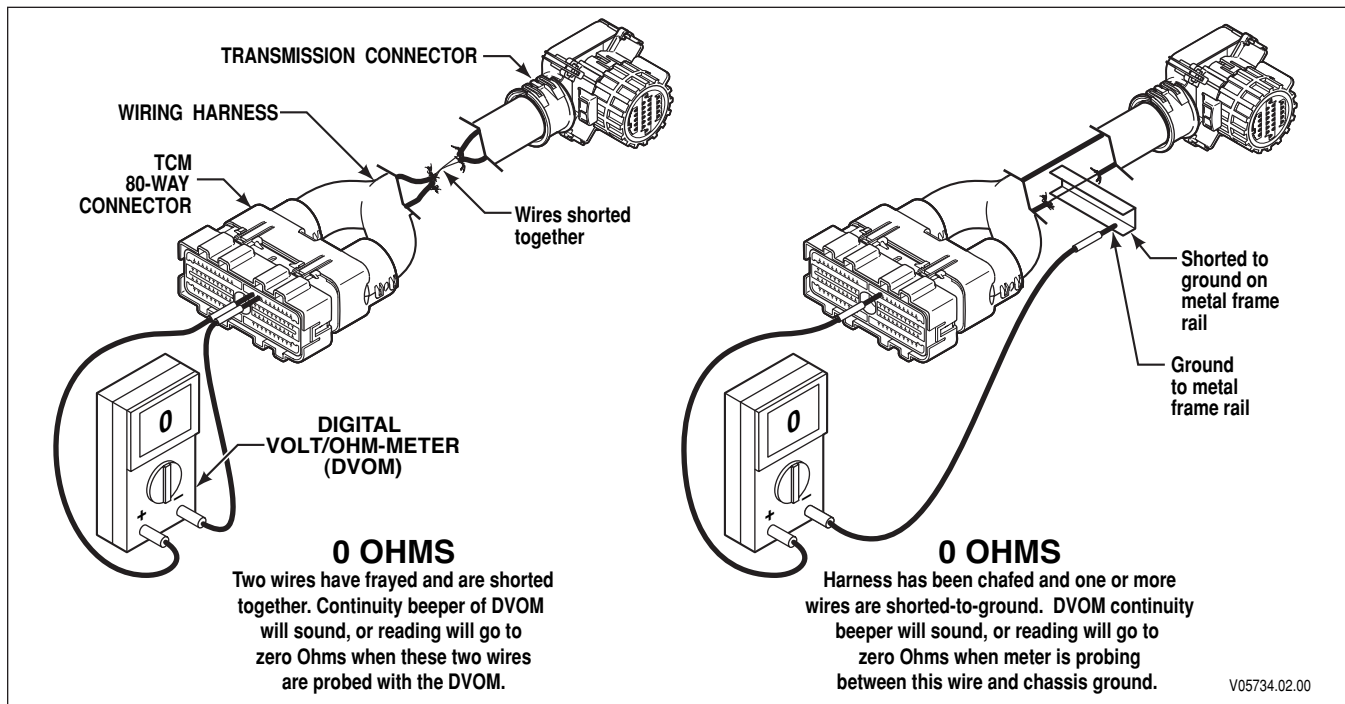

Figure 4–2. Short Between Wires and to Ground (External Harness)
- (2) On the opposite end of the harness, check the continuity of the jumpered pair. No continuity in a jumpered pair circuit (infinite resistance reading) indicates an open in the wire being tested. Refer to OEM wiring harness repair procedure.
- b. If the continuity check is good (0–2 Ohms resistance), remove the jumpers. Check the harness for shorts between wires and shorts-to-ground by performing the following (refer to Figure 4–2):
- (1) At the TCM end of the harness, touch one DVOM probe to one wire of the circuit being tested and touch the other probe to each terminal in the same connector, then touch the probe to chassis ground and to the transmission main housing. Do this for both wires in the circuit being tested.
- (2) If at any time the DVOM shows zero to low resistance, or the meter's continuity beeper sounds, there is a short between the two points being probed—wire-to-wire or wire-to-ground. Isolate and repair the short.